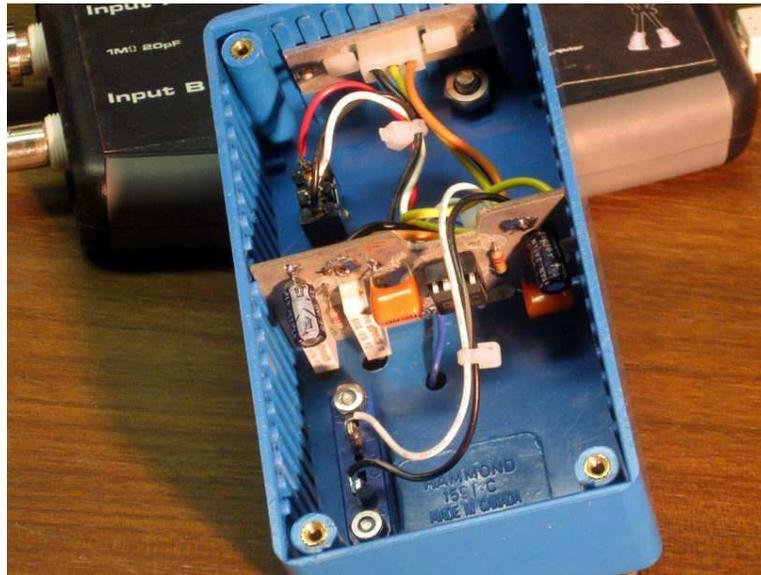

Figure 3: Powered Shunt Assembly
- The blue box is the powered shunt, figure 3. The shunt is fastened to the top of the box. The switch is the range switch, the two holes allow adjustment of the multi turn trimmer pots and the output is brought out to the two pins for either a multi meter, data logger or the DSO-101.
Driving op-amps from a single rail has always been problematic for me, so this is powered from a +/- 12 supply. The AD620 will safely handle only 8 volts over supply, so I have added R1 and R2 as protection which brings its tolerance level up to closer to 100 volts. The assembly internals of the powered shunt are shown in figure 3.